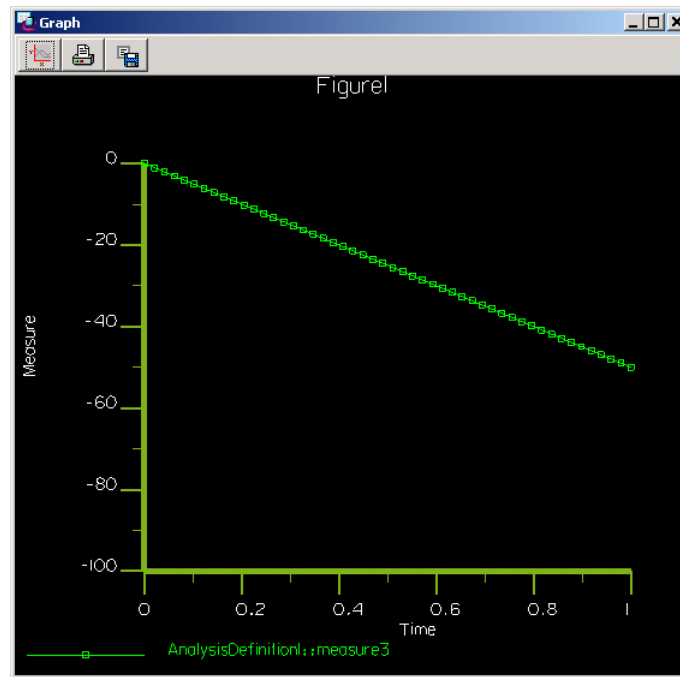

Figure 4
3. Create a report file of the angular position versus time results for the measure *arm_bkt_pos* by selecting the save to disk option from the results. This will create a file called *arm_bkt_pos.tbl*. You will need to edit this file and remove the header section, with the numerical data remaining. Figure 4 shows a graph of *arm_bkt_pos* versus time.